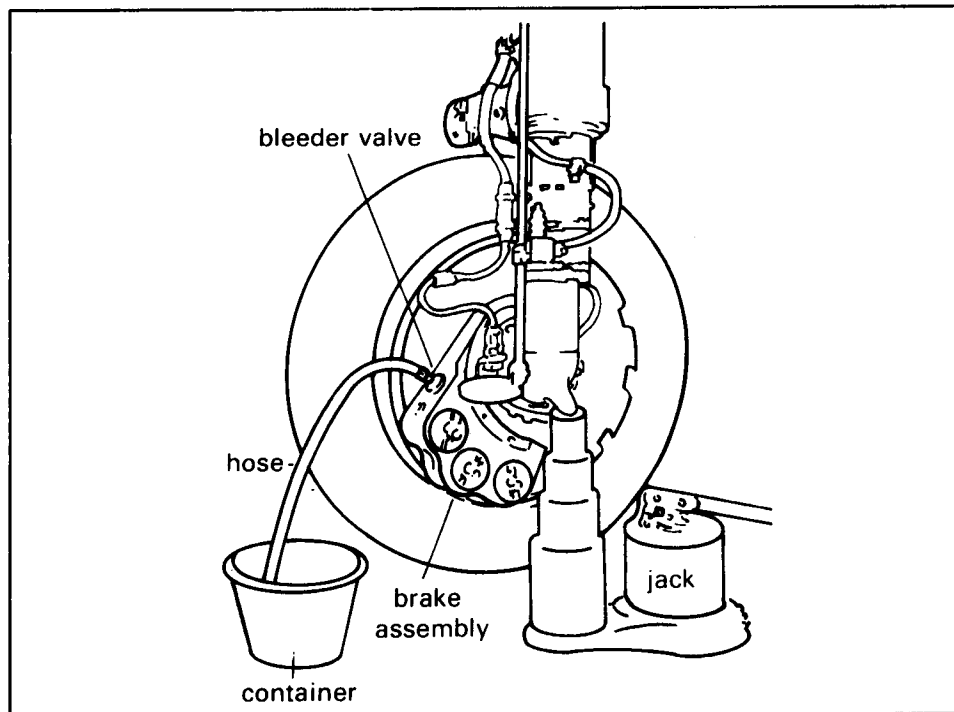

Figure 10-18. Gravity method.
**Gravity Method.** In the gravity method, the air is expelled from the system through one of the bleeder valves on the brake assembly. To bleed the system using this method, attach a bleeder hose to the bleeder valve. (See Figure 10-18.) Then place the free end of the hose in a container holding enough hydraulic fluid to cover the end of it. The air-laden fluid is then forced from the system by applying the brakes. If the brake system is part of the main hydraulic system, use a portable hydraulic test stand to supply the pressure. If the system is an independent master cylinder system, use the master cylinder to supply the necessary pressure. In either case, close the bleeder valve each time the brake pedal is released; otherwise air will be drawn back into the system. Bleeding should continue until no more air bubbles come through the bleeder hose into the container.